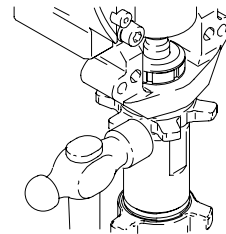

Fig. 11
6. Fig. 11. Screw jam nut (56) up onto pump until nut stops. Tighten jam nut by hand, then tap 1/8 to 1/4 turn with a 20 oz (maximum) hammer to approximately 75 ± 5 ft-lb (102 N-m).